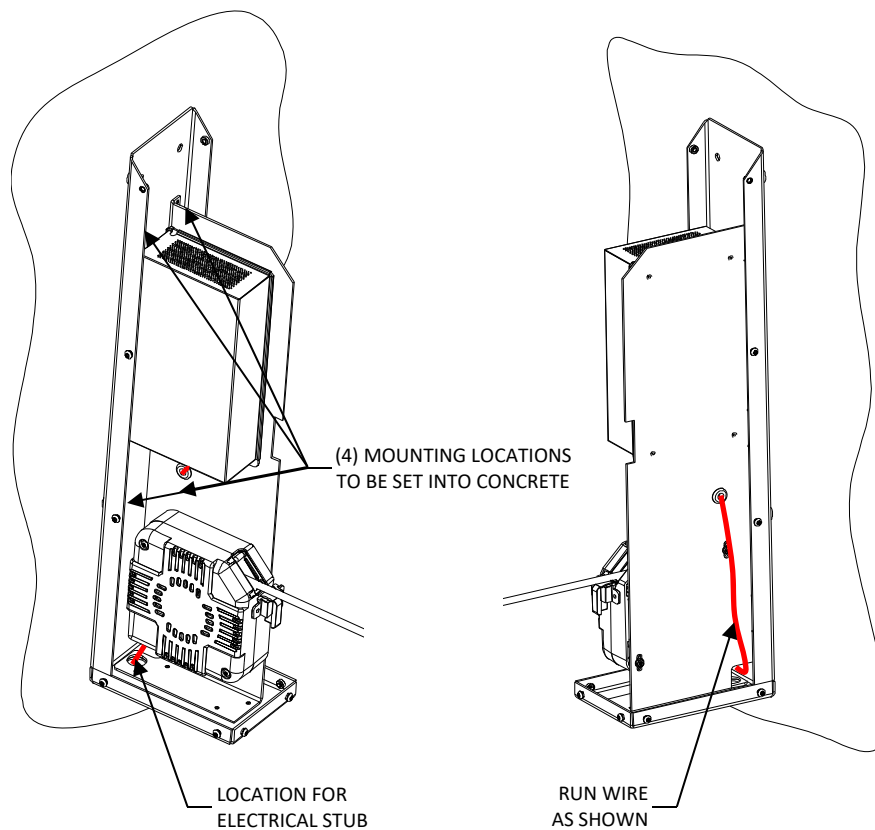
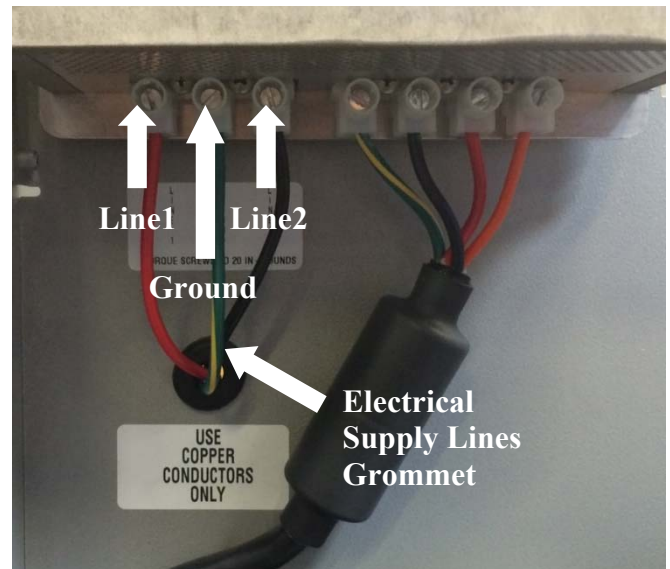

Figure 6 – Input Wiring Routing
Figure 7 – Input Wiring Termination
IMPORTANT: Torque fasteners to 20 ft-lb. (See Figure 6)
8. Feed electrical supply through bottom entry location in middle of unit. Feed wires to right of unit through bottom rear wire access hole. Route cable upwards and feed from right to left of unit through cable pass-through grommet between cord reel and circuit board. (See Figure 6 on previous page and Figure 7 below)
9. Terminate Line1, Line2, and Ground wires per Figure 7.
10. Install the 6 screws in the lower front and sides of the unit that attach the front housing to the charging base. (See Figure 6 on previous page)
<p>None of the status lights are illuminated. L2 PowerPost® EVSE does NOT charge vehicle when charge coupler is plugged in.</p>	<ul style="list-style-type: none"> • Interrupt power to the L2 PowerPost® EVSE and lock out as appropriate. Disassemble unit per steps 3-5 above. Restore supply power to L2 PowerPost® EVSE. Verify that proper supply voltage is present at the L2 PowerPost® EVSE terminal block. (See Figure 7) • Interrupt power to the L2 PowerPost® EVSE and lock out as appropriate. Verify that supply power wiring is securely terminated to incoming power terminal block. • Interrupt power to the L2 PowerPost® EVSE and lock out as appropriate. Remove incoming power fuse and verify continuity. Replace fuse if blown. • If these steps do not resolve the problem, contact Konnectronix technical support.
4. Disconnect the supply wiring and cord reel wiring from their respective terminal blocks. (See Figure 7 in the Installation section)
8. Reconnect the supply wiring to the terminal block per Figure 7 in the Installation section.